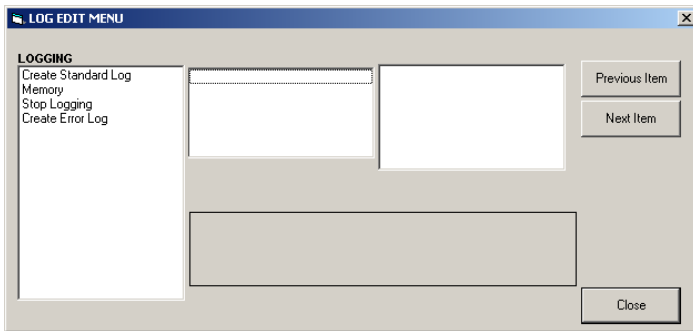

Figure 11: Log edit menu window
- Double-click on the *log edit* menu, as shown in *Figure 10* above. The window appears similar to *Figure 11* below.